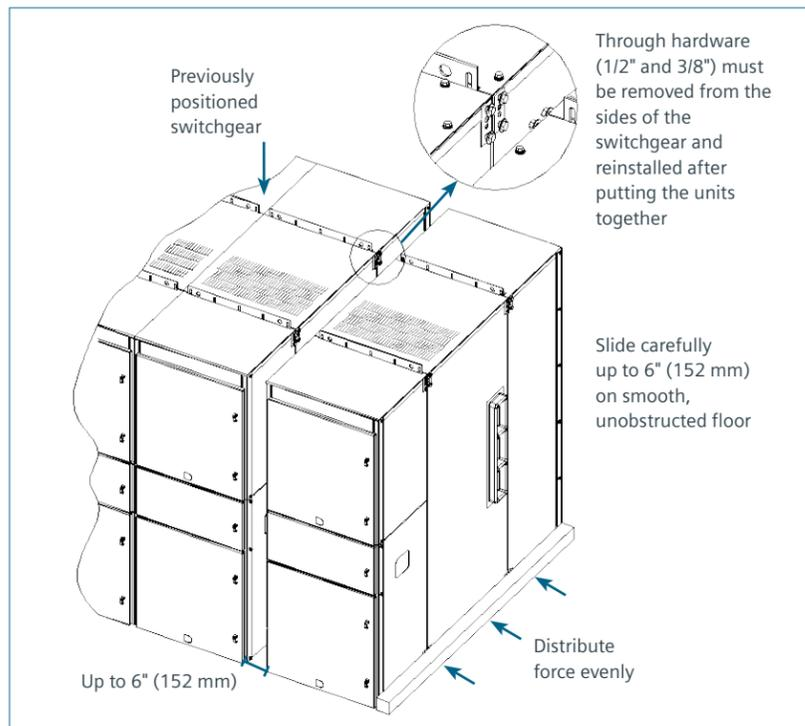

Figure 4: Moving switchgear in obstructed areas without crane- final positioning
Figure 4: Moving switchgear in obstructed areas without crane-final positioning on page 12 shows a method of moving the switchgear into the final position after it has been moved near to the final position using another method.
7. Where top lift capability is not available, protect the switchgear bottom with support timbers and move with jacks and rollers just to the side of its final position. Remove rollers, shipping pallets and other packaging materials and remove jacking facilities. Clear any obstructions. The equipment may be slid sideways up to 6" (152 mm) to join the shipping split. Any sliding force must be carefully applied across the bottom 4" (102 mm) of the switchgear side with proper cribbing to fully distribute the force across the full depth of side (refer to Figure 4: Moving switchgear in obstructed areas without crane-final positioning on page 12).